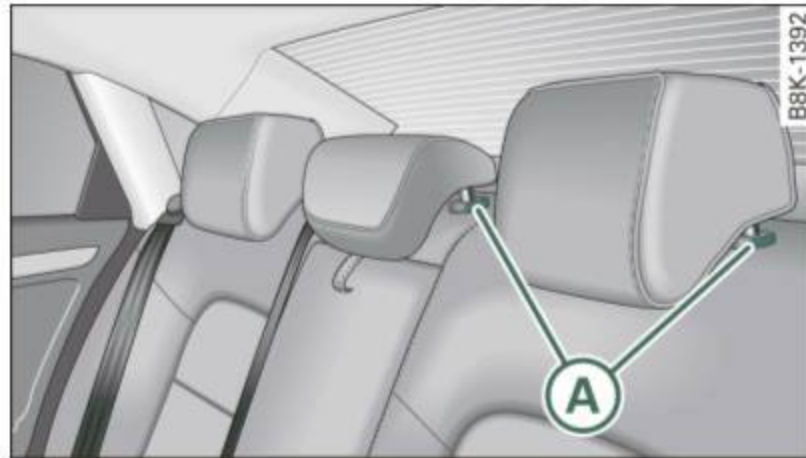
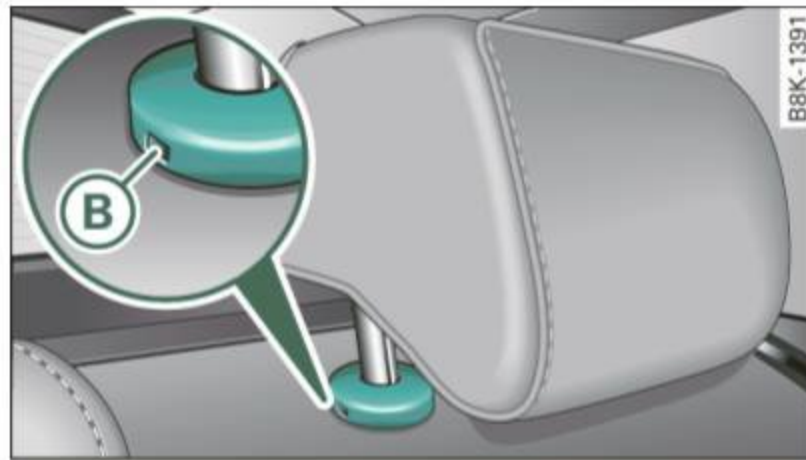

Fig. 74 Rear seats:
Fig. 75 Rear head
- To move the head restraint down, press the button **A** ⇒ fig. 74 and slide the head restraint downward.
- Press the release **B** ⇒ fig. 75 with the mechanical key ⇒ *page 40* and the button **A** ⇒ fig. 74. Pull the head restraint out of the backrest at the same time ⇒ .
- Press the button **A** ⇒ fig. 74 and slide the head restraint all the way down. You should not be able to pull the head restraint out of the backrest.